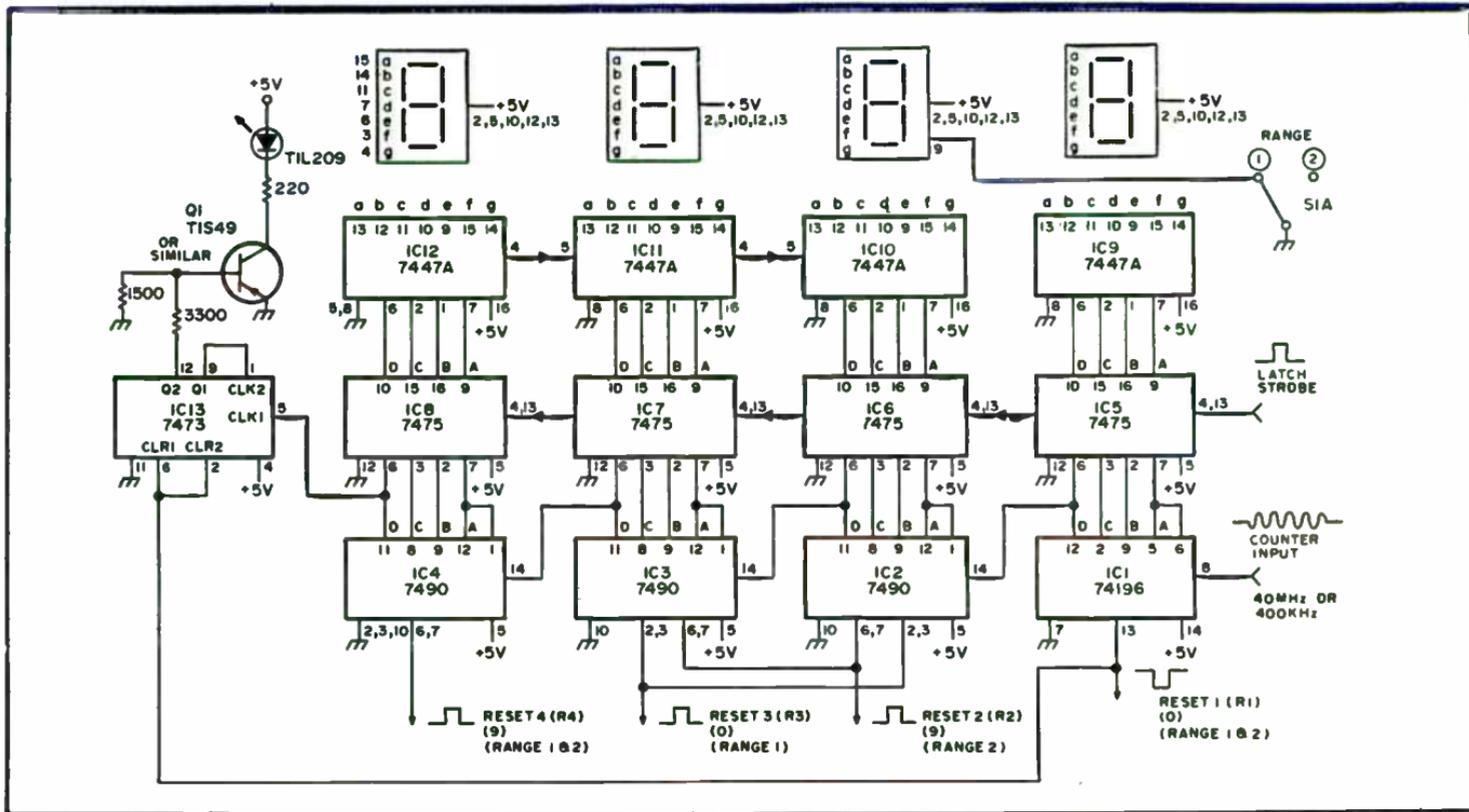

Fig. 4-3. Note: Cut off pin 4 of ICs 2 and 3 (SN7490).
18. Using cheap Minitrons for display determines the frequency of the timing circuit; it must be low enough to read both values comfortably, e.g., 17 and 18. After a few tests leave it at about 2 Hz. The timing oscillator is then running at 20 Hz and is divided by 10 with the SN7490. Pulse "4" is used for triggering the MMV, "6" is used as strobe pulse for latches and "8" is used for reset pulses. This system works very well and leaves about 100 ms between trigger and strobe. With 1 μ F and 40k ohm, the SN74121 generates about 25 ms pulses, so that it is well within the above 100 ms. Any other combination of the outputs from the SN7490 is, of course, possible (Fig. 4-3).